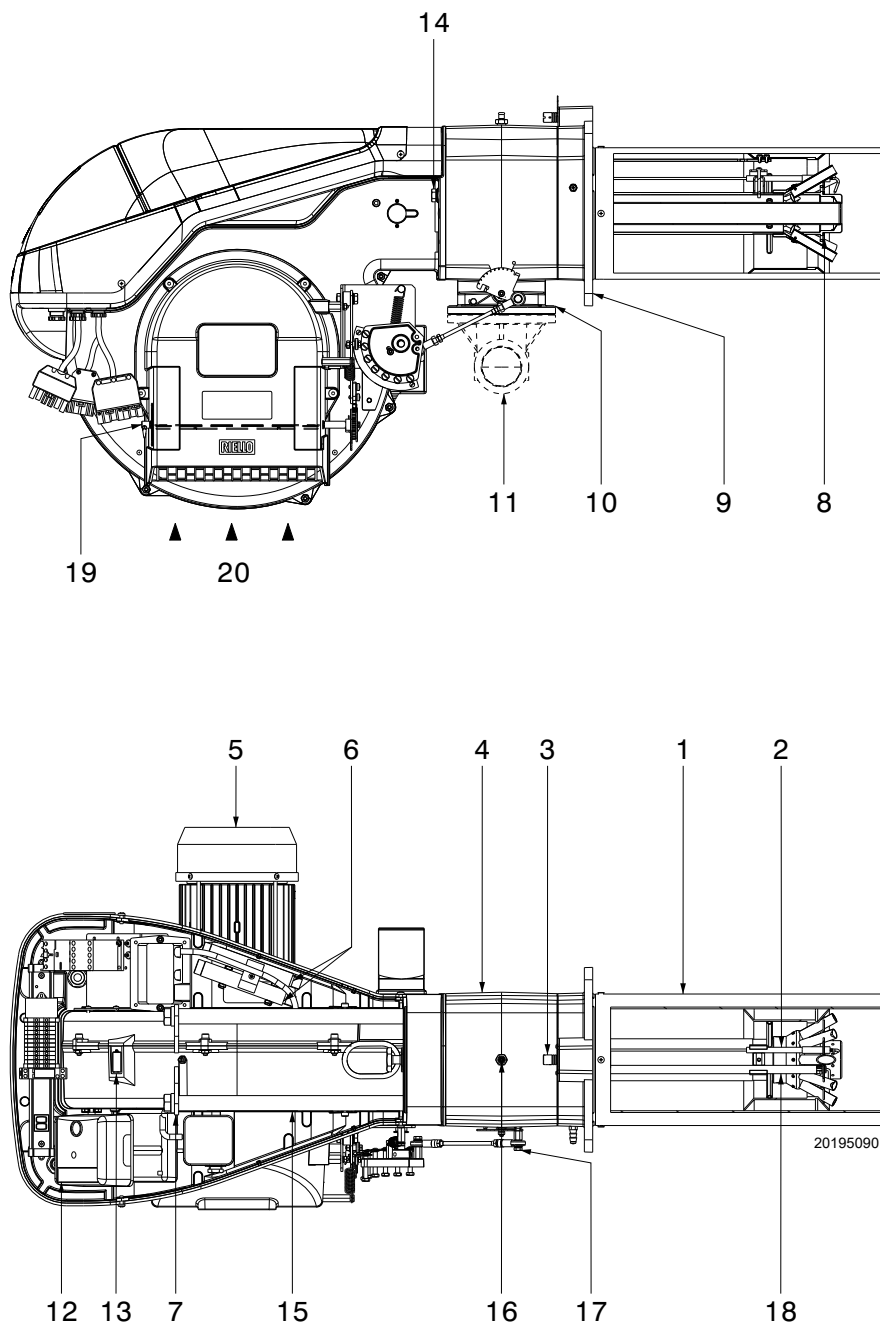

Fig. 4
- (1) Reference conditions: Ambient temperature 20°C - Gas temperature 15°C - Barometric pressure 1,013 mbar - Altitude 0 m a.s.l.
(2) Pressure at test point 16)Fig. 4 on page 12) with zero pressure in combustion chamber and at maximum burner output.
(3) Sound pressure measured in manufacturer's combustion laboratory, with burner operating on test boiler and at maximum rated output. The sound power is measured with the "Free Field" method, as per EN 15036, and according to an accurate "Accuracy: Category 3" measurement, as described in EN ISO 3746.
(4) Blast tube: short-long
if the control box button 12)(red led)(Fig. 4) lights up, it indicates that the burner is in lockout.